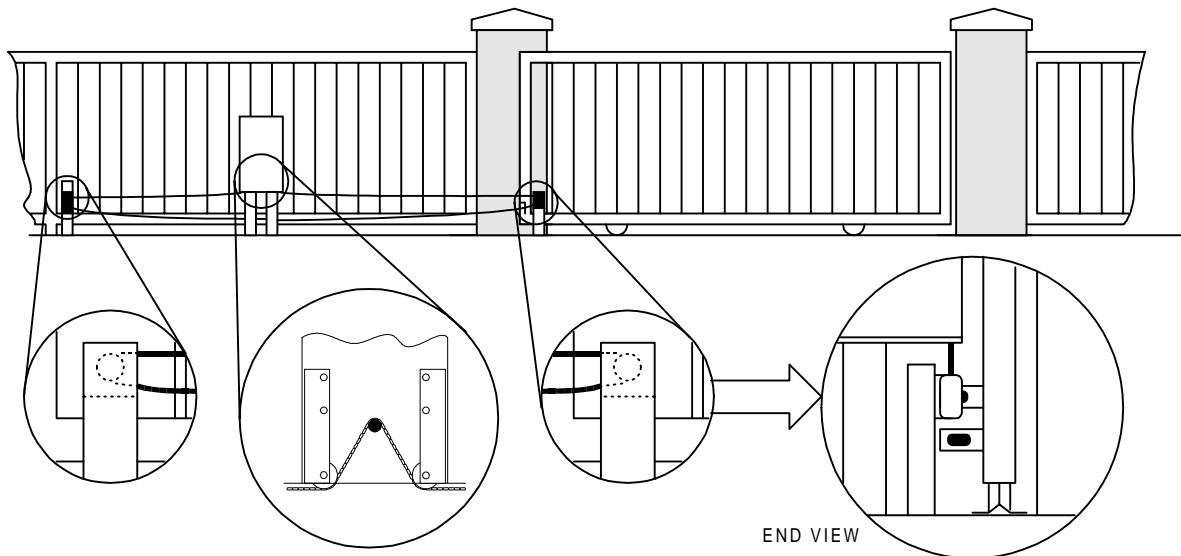

Figure 21
1. Install an endless idler assembly (p/n 2600-818) at each end of the gate opening (figure 21). Note that the gate travels between the fence and the chain in this type of installation. **IMPORTANT!! Be sure that the idler post/mount assembly is secure.**
3. Route the chain through the gate operator: under the chain guide idlers and over the drive sprocket (Figure 21), and then around the two idler assemblies.